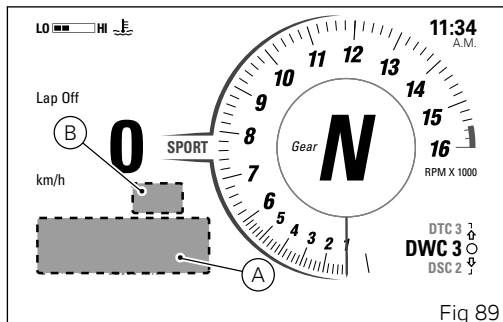

Fig 89
As the set service thresholds are almost reached, every time the motorcycle is switched on, the instrument panel activates the relevant grey indications for 5 seconds, in large mode (A, Fig 89) in the Track and Road Info Modes, showing the distance or days remaining: for "Oil Service" (D) and "Desmo Service" (E) it activates when 1000 km (621 miles) remain, for "Annual Service" (F) when 30 days remain.
Once the service threshold has been reached and each time the instrument panel is turned on, the corresponding amber warning is activated. In Track and Road Info Modes for the first 5 seconds it is displayed in large mode (A, Fig 89), then it is displayed in small mode (B, Fig 89). Amber yellow service warning is displayed until reset by the Ducati authorised service centre, during maintenance.